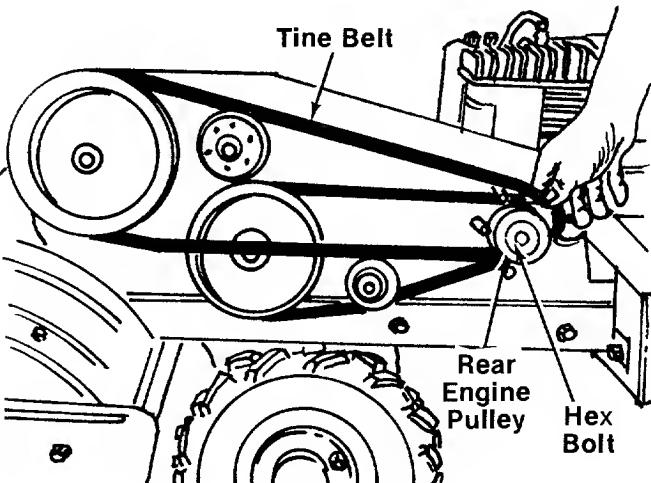

FIGURE 24.
- Loosen, but do not remove, the hex bolt on the rear engine pulley. See figure 24.
- Remove the hex bolt, lock washer and flat washer from the rear engine pulley. See figure 24. Slip the rear engine pulley off the engine.